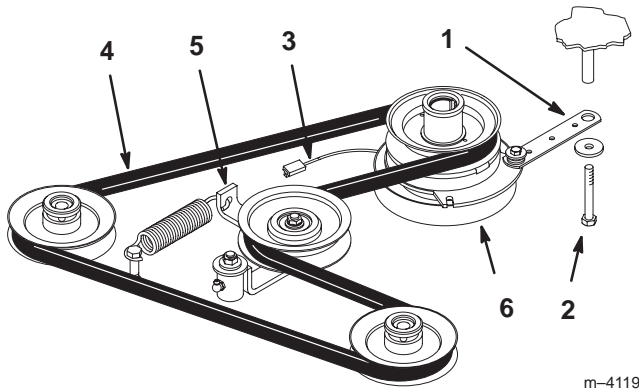

Figure 54
2. Remove the bolt from the clutch strap and unplug the clutch electrical wire (Fig. 54).
3. Pull the spring loaded idler to the side. Remove the traction belt from the engine and hydro pump pulleys (Fig. 54).
4. Install the new belt around the engine and hydro pump pulleys (Fig. 54).
5. Pull the spring loaded idler to the side and align the belt. Release pressure on the spring loaded idler (Fig. 54).